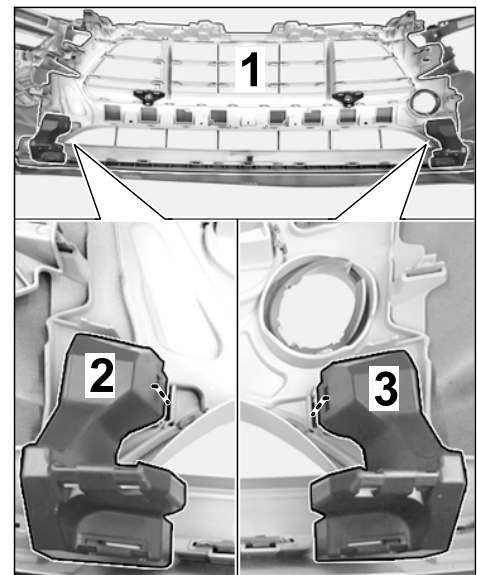

Figure 6
- 2.6.1 Install Z support (left/right) in the (centre) radiator grille (⇒ *Figure 6*).